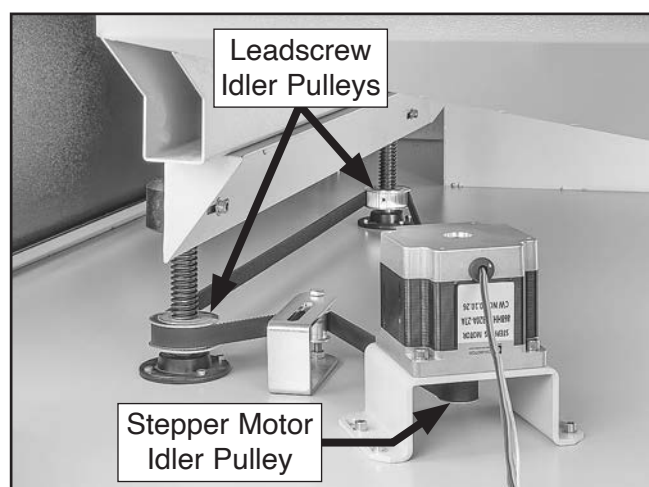

Figure 89. Example of synchronous belt around pulleys.
14. Install replacement synchronous belt around front and rear leadscrew idler pulleys, and stepper motor idler pulley (see **Figure 89**).